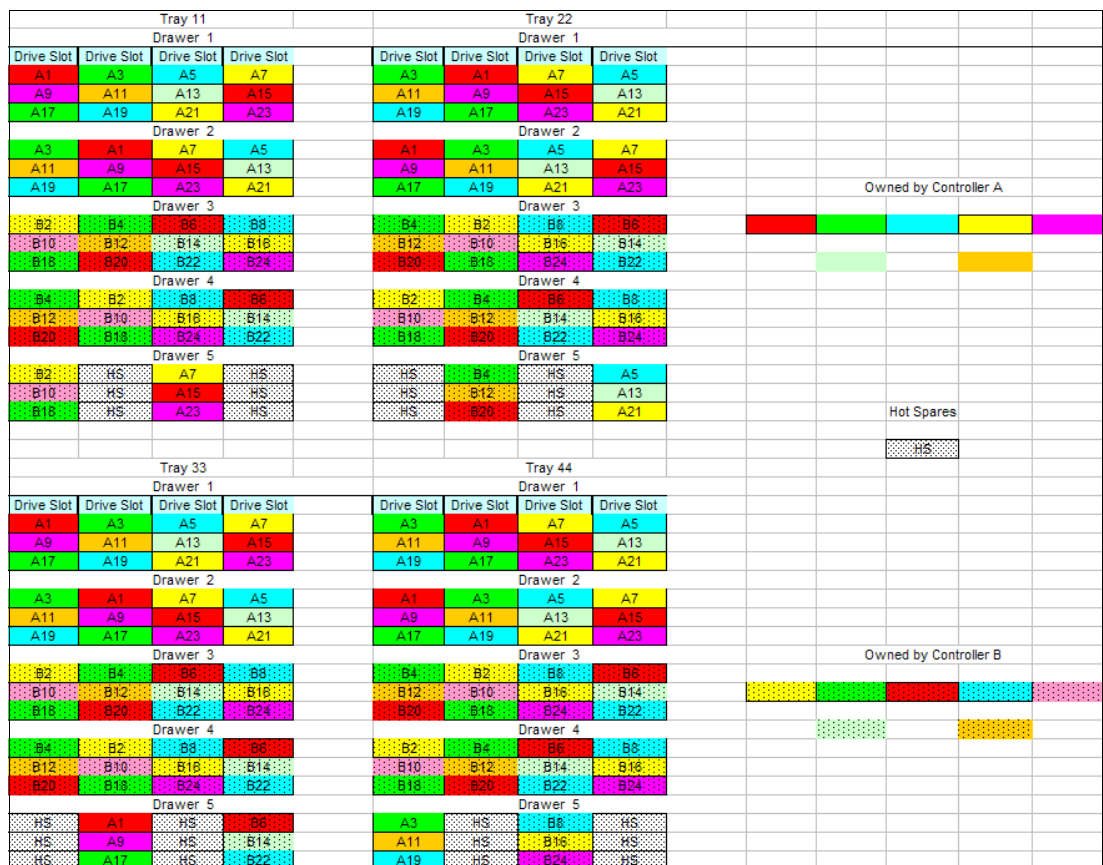

Figure 3-4 Trunked EXP5060 configured with 8 + P arrays with drawer protection
With the new trunked design of the EXP5060 expansion, there is more to consider when planning the layout of arrays and LUNs. With the new expansion, we also have two additional switches that are built into the Environmental Service Module (ESM) that are not available in the earlier designs. With the EXP5060, the Fibre Channel drawer consists of a two drawer control monitor (DCM) with one drawer for each of the loop pairs. The DCM uses a microcontroller to manage the environmental data and enclosure control over the I/O loop and System on a Chip (SOC) switch path controls. When configuring the EXP5060 in a trunked configuration for maximum throughput, it is important that you avoid sharing the drive drawers between controllers whenever possible. Create arrays and LUNs by using the disks from two drawers for arrays and LUNs to be owned by controller A, and two other drawers to be owned by controller B. Then, you can use the fifth drawer for hot spares. If all 60 drives are needed, limit the drives using the fifth drawer to only arrays that are built to be used by only one controller to prevent the effect of shared DCMs. Figure 3-4 shows a full four EXP5060 configuration that is built with 8 + P RAID5 or 7 + P + Q RAID6.
2. Dedicate two drawers, drawers 1 and 2 in the example in Figure 3-4, from all of the expansion trays to build arrays and LUNs that are owned by Controller A.
3. Dedicate two other drawers, drawers 3 and 4 in the example in Figure 3-4 on page 22, from all of the expansion trays to build arrays and LUNs that are owned by Controller B.
4. When using the fifth drawer, build separate array groups (A21, A23, B22, and B24 in the example in Figure 3-4 on page 22) that are split equally between Controller A and B. This design allows the shared DCM to have minimal effect and still spreads the workload as evenly as possible across all of the drive channels.